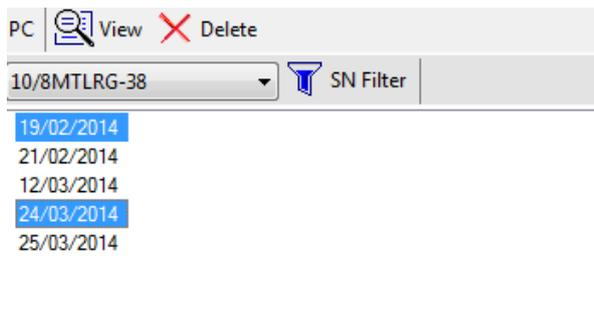

Figure 8.5: PC window with usage logs
Once you have selected a specific locator, the RD Manager PC window will show all the usage logs associated with the unit sorted by date in ascending order, figure 8.5.
1. Select the logs you wish to delete, see figure 8.5